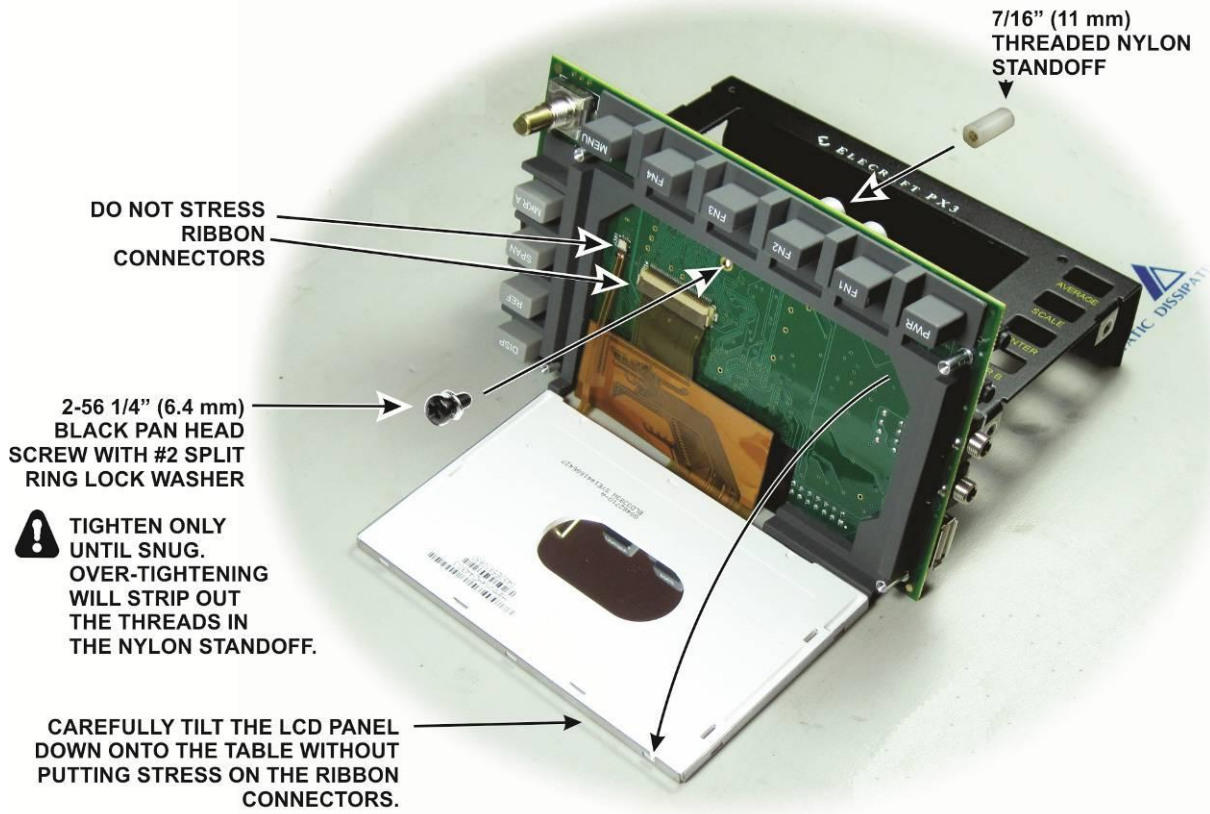
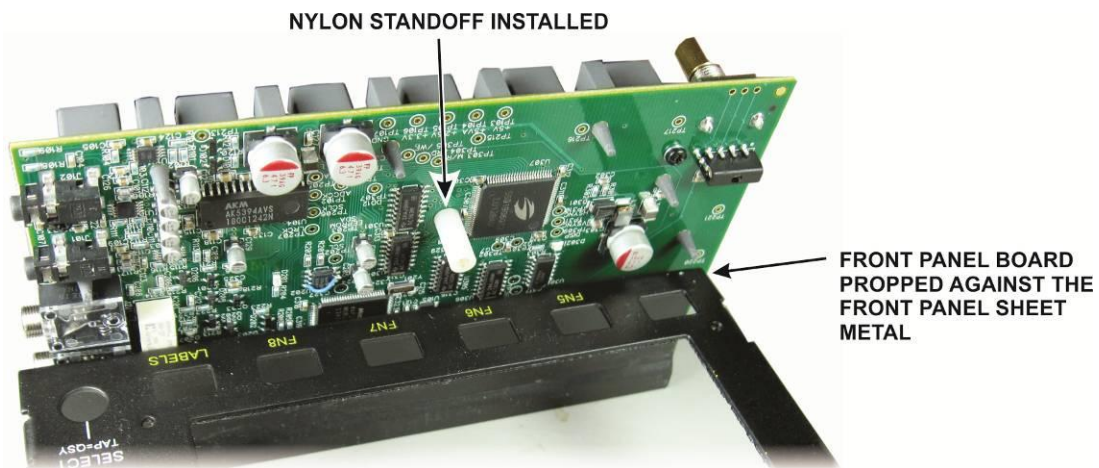

Figure 28. Installing the Nylon Standoff on the Front Panel PC Board.
Figure 29. Nylon Standoff Installed.
☐ Locate the front panel. On the inside are four small pieces of conductive tape covering screw holes at each corner of the large opening for the LCD (see Figure 28). **Do not remove this tape!** It provides an essential ground for the LCD when the front panel board is mounted. Use a sharp knife point or other tool to open the tape over each screw hole Work from the inside so you do not push the tape away from the panel. This is needed to mount the front panel board later, but first you will need to prepare the front panel board for installation in the next few steps.
□ Place the front panel face up on your work table. Carefully remove the rubber band holding the LCD in place and prop the front panel board up on its **top** edge against your work table. Install the threaded nylon standoff on the board as shown in Figure 28. Tighten only until the standoff is snug. Do not over-tighten or you will strip the threads in the standoff. The installed standoff is shown Figure 29, If one of the ribbon cables does come loose, see *Replacing the LCD* on page 62.